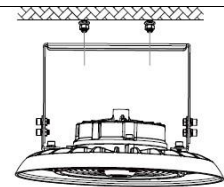
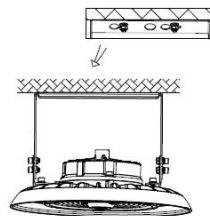

Figure 4
Figure 5
3. Align the bracket holes with the screw holes (Figure 4), and push the fixture to one side (Figure 5). Tighten the screws to secure the fixture.